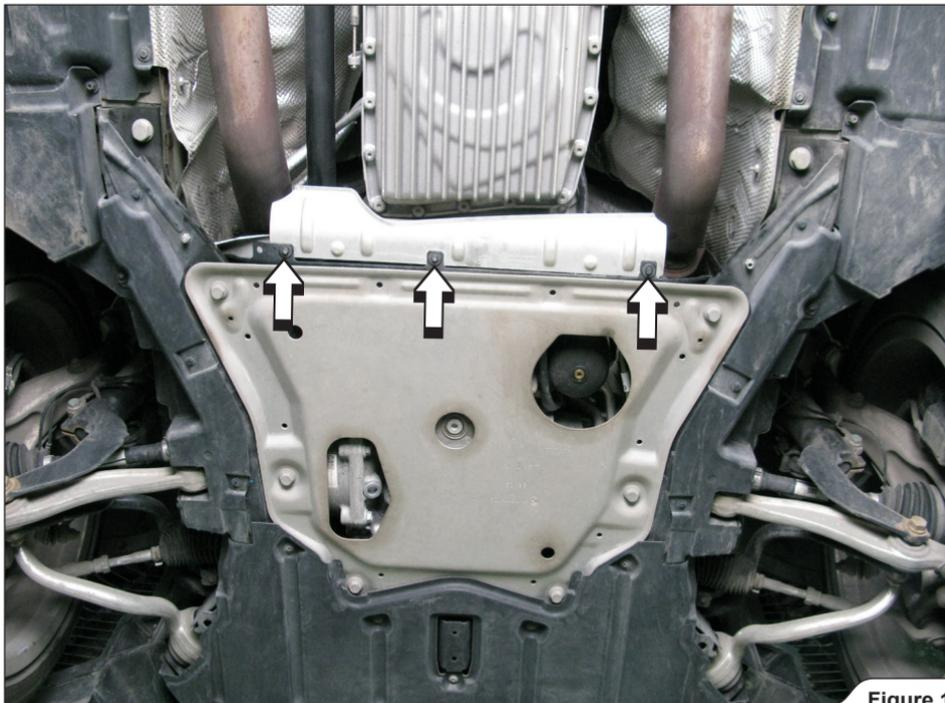

Figure 1
1. Unscrew the three marked bolts and remove the aluminium protection off the vehicle (**Figure 1**).